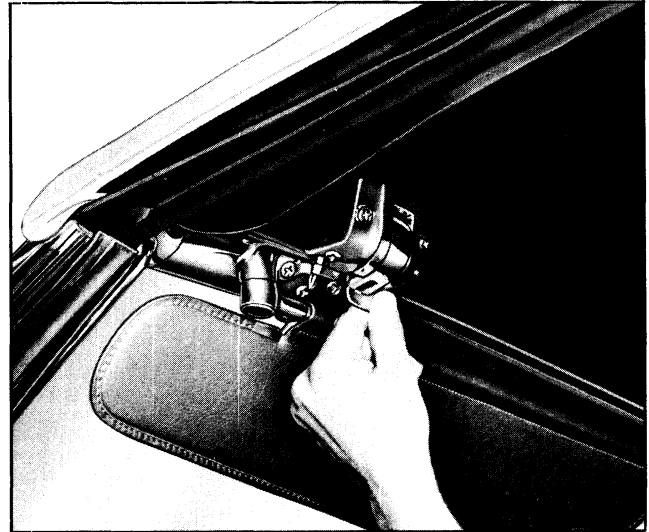

Fig. 22-3 Unlocking Top From Header
2. Turn down both sun visors; then rotate each locking handle rearward then upward until it is disengaged from striker on windshield header (Fig. 22-3).